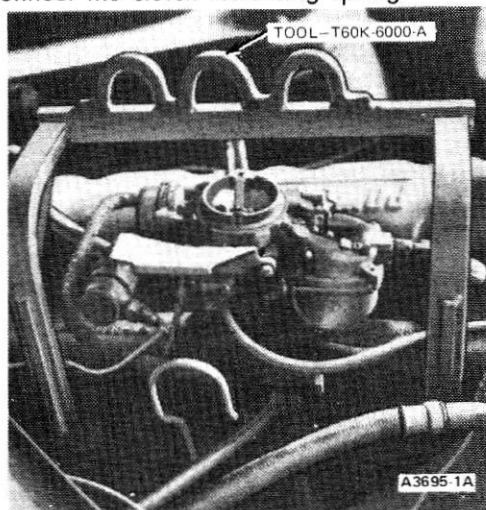
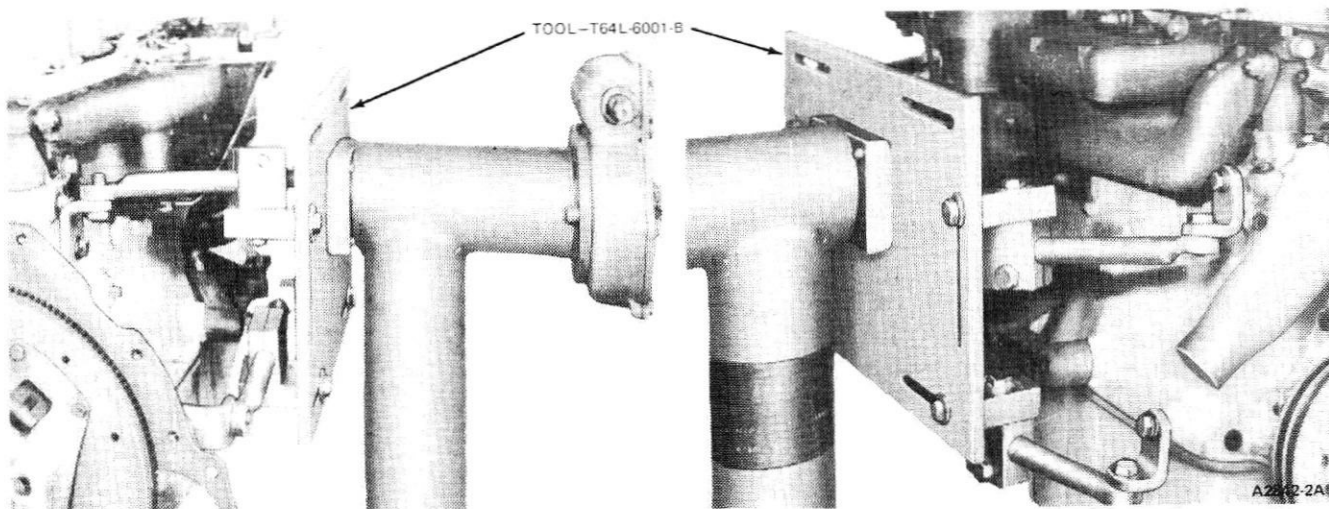

FIG. 3 Engine Lifting Hook
FIG. 4 Engine Mounted on Work Stand—Typical
12. Attach the engine lifting hook (Fig. 3). Carefully lift the engine out of the engine compartment. Place the engine on a work stand (Fig. 4).